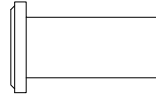

FIG.3.
- Attach the Allenbolt 1"(25mm) (K) and Nut 3/4"(20 mm) (L) on the lowest hole of Sideboard.
- Final position as shown in FIG.3.